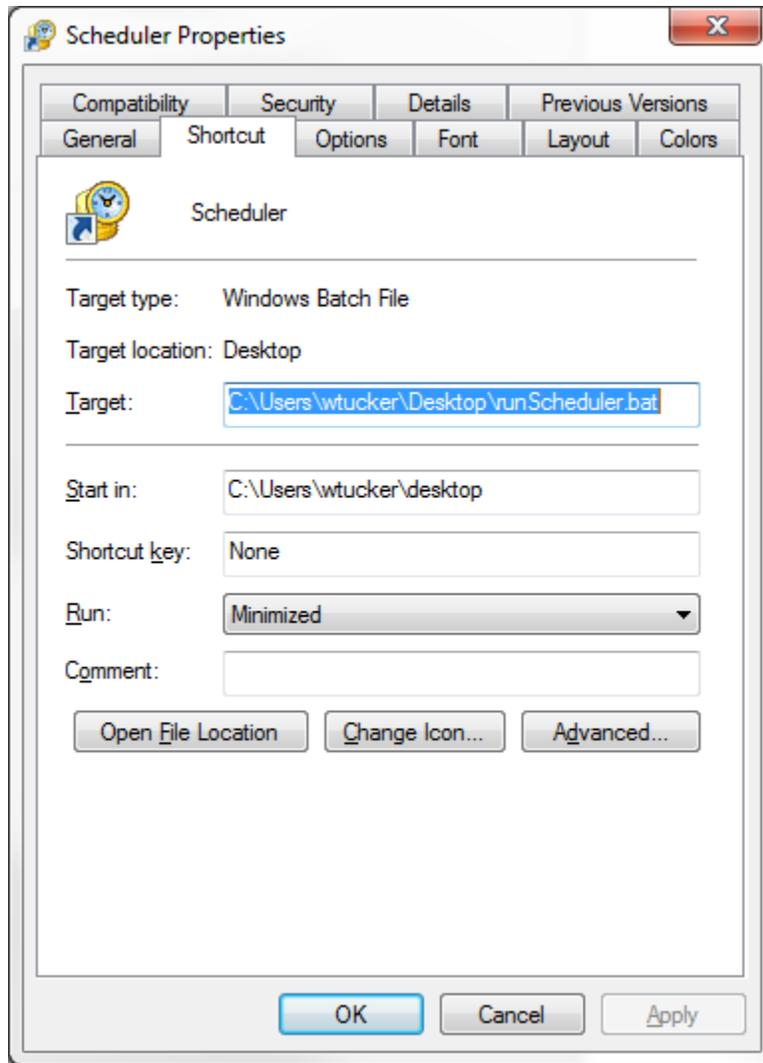

Figure 11 - Startup Shortcut Properties
5. From the resulting context menu, click on "Properties" and the dialog below (Figure 11 Figure 11 - Startup Shortcut Properties) will be shown.
7. In Figure 11, the target is a file called "runScheduler.bat" on the desktop of user "wtucker".